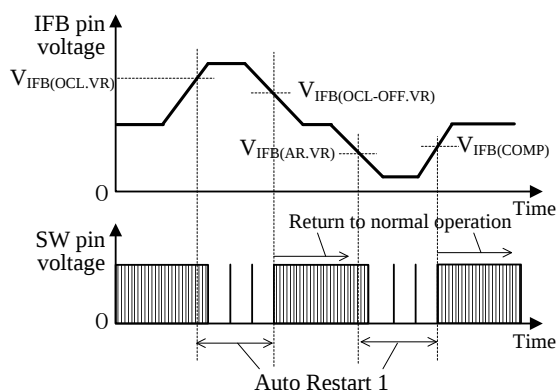
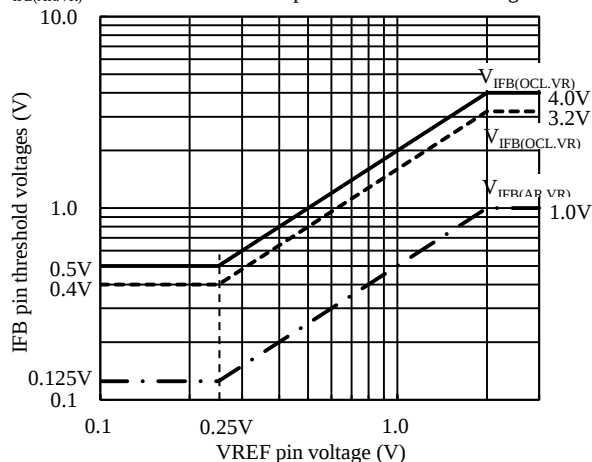

Figure 8-19 IFB pin threshold voltage and Auto Restart 1 operation
Figure 8-20 VREF pin voltage versus IFB pin threshold voltages
As shown in Figure 8-19, IFB pin has two types of threshold voltage. These threshold voltages depend on the VREF pin voltage, as shown in Figure 8-20.
When the FB pin voltage increase to $V_{IFB(OCL.VR)}$ in Figure 8-20, or more, the operation of the IC switches to Auto Restart 1. When the fault condition is removed and the IFB pin voltage decreases to $V_{IFB(OCL-OFF.VR)}$ in Figure 8-20, or less, the IC returns to normal operation automatically.
When the FB pin voltage decrease to $V_{IFB(AR.VR)}$ in Figure 8-20, or more, the operation of the IC switches to Auto Restart 1. When the fault condition is removed and the IFB pin voltage increases to above $V_{IFB(OMP)}$, the IC returns to normal operation automatically.
- (2) When IFB pin voltage becomes $V_{IFB(OCL.VR)}$ or more (see Figure 8-20), the IC switches to Auto Restart 1.
- (3) The LED current increases further and when the IFB pin voltage increases to the IFB Pin Overcurrent Protection High Threshold Voltage, $V_{IFB(OCH)} = 4.0$ V or more, the IC switches to Auto Restart 2.
When the LED_OUT (+) or the IFB pin is open and the OVP pin voltage increases to the OVP Pin Overvoltage Protection Threshold Voltage, $V_{OVP} = 3.00$ V, the IC immediately stops switching operation. When the OVP pin voltage decreases to the OVP Pin Overvoltage Protection Release Threshold Voltage, $V_{OVP(OFF)} = 2.75$ V or the IFB pin voltage decreases to $V_{IFB(AR.VR)}$ in Figure 8-20, then the IC switches to Auto Restart 1.
When the LED_OUT (–) and the GND are shorted, and the IFB pin voltage decreases to $V_{IFB(AR.VR)}$ in Figure 8-20, then the IC switches to Auto Restart 1.
When the output current detection resistor (R15, R61), is shorted, the IFB pin voltage decreases. When the IFB pin voltage decreases to $V_{IFB(AR.VR)}$ in Figure 8-20, then the IC switches to Auto Restart 1.